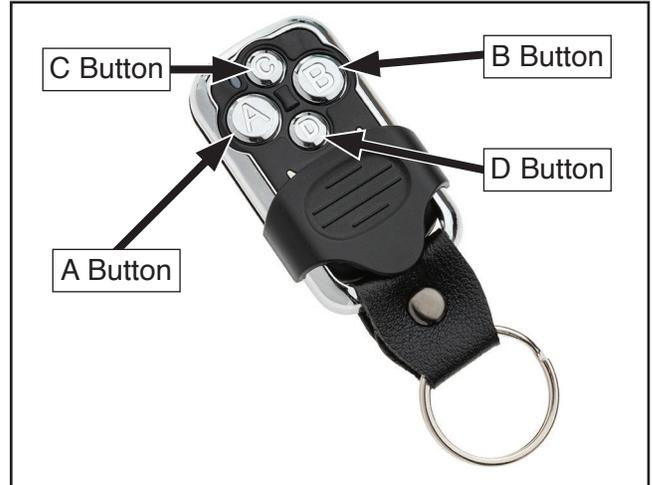

Figure 93. Location of remote control buttons.
3. Simultaneously press and hold D button on remote control and Remote button on control panel (see **Figure 93**) until remote beeps (3) times. Remote should now be paired.
4. Test connection by pressing A button to turn motor **ON**, then press B Button to turn motor **OFF** (see **Figure 93**).